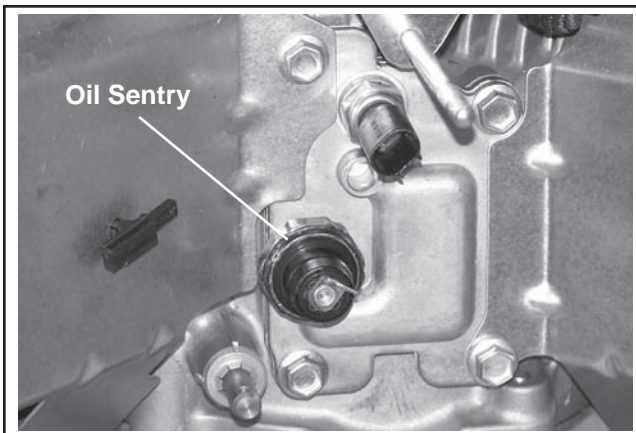

Figure 10-54. Oil Sentry™ Switch (If So Equipped).
1. Apply pipe sealant with Teflon® (Loctite® 592™ PST® Thread Sealant or equivalent) to the threads of the Oil Sentry™ switch and install it into the breather cover. See Figure 10-54. Torque to **4.5 N·m (40 in. lb.)**.